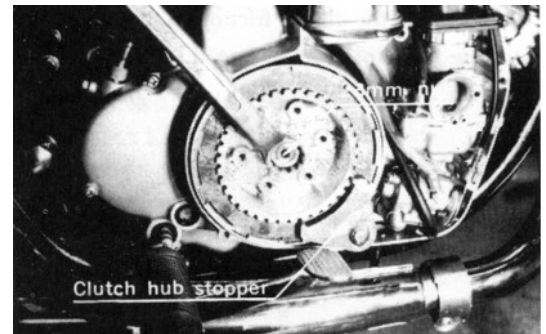

Fig. 55 Removing clutch hub
3. Remove clutch hub nut (23mm) with clutch hub stopper (special tool) (Fig. 55)